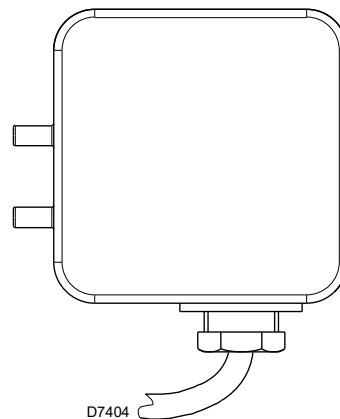

Fig. 22
- Adjust the air pressure switch (Fig. 22) to the start of the scale.
Adjust the air pressure switch (Fig. 22) after performing all other burner adjustments with the air pressure switch set to the start of the scale. With the burner function at the required output, turn the knob slowly in a clockwise direction until burner lockout.